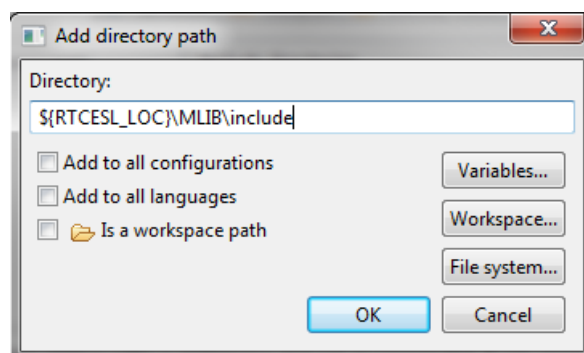

Figure 1-10. Library include path addition
20. Click the Add... button on the right, and a dialog appears. See Figure 1-10.